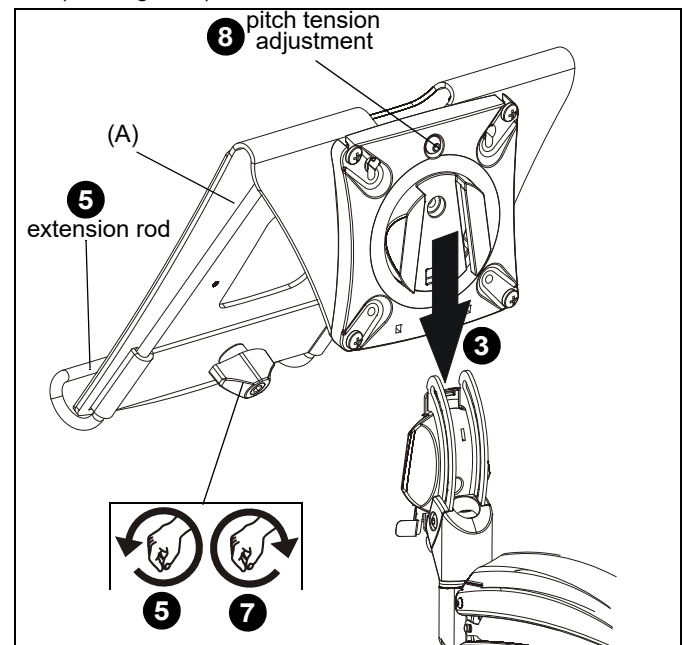

Figure 3
3. Slide laptop tray (A) onto mounting head until quick release tab clicks into place. (See Figure 3)
4. Adjust mounting arm and tray to desired mounting level. See monitor arm installation instructions for adjustment details. (See Figure 3)
5. Turn extension rod tension adjustment knob counter-clockwise to decrease tension. (See Figure 3)
6. Extend laptop extension rod as desired. (See Figure 3)
8. Center laptop on tray and adjust pitch tension as needed to hold tray in desired position. (See Figure 3)